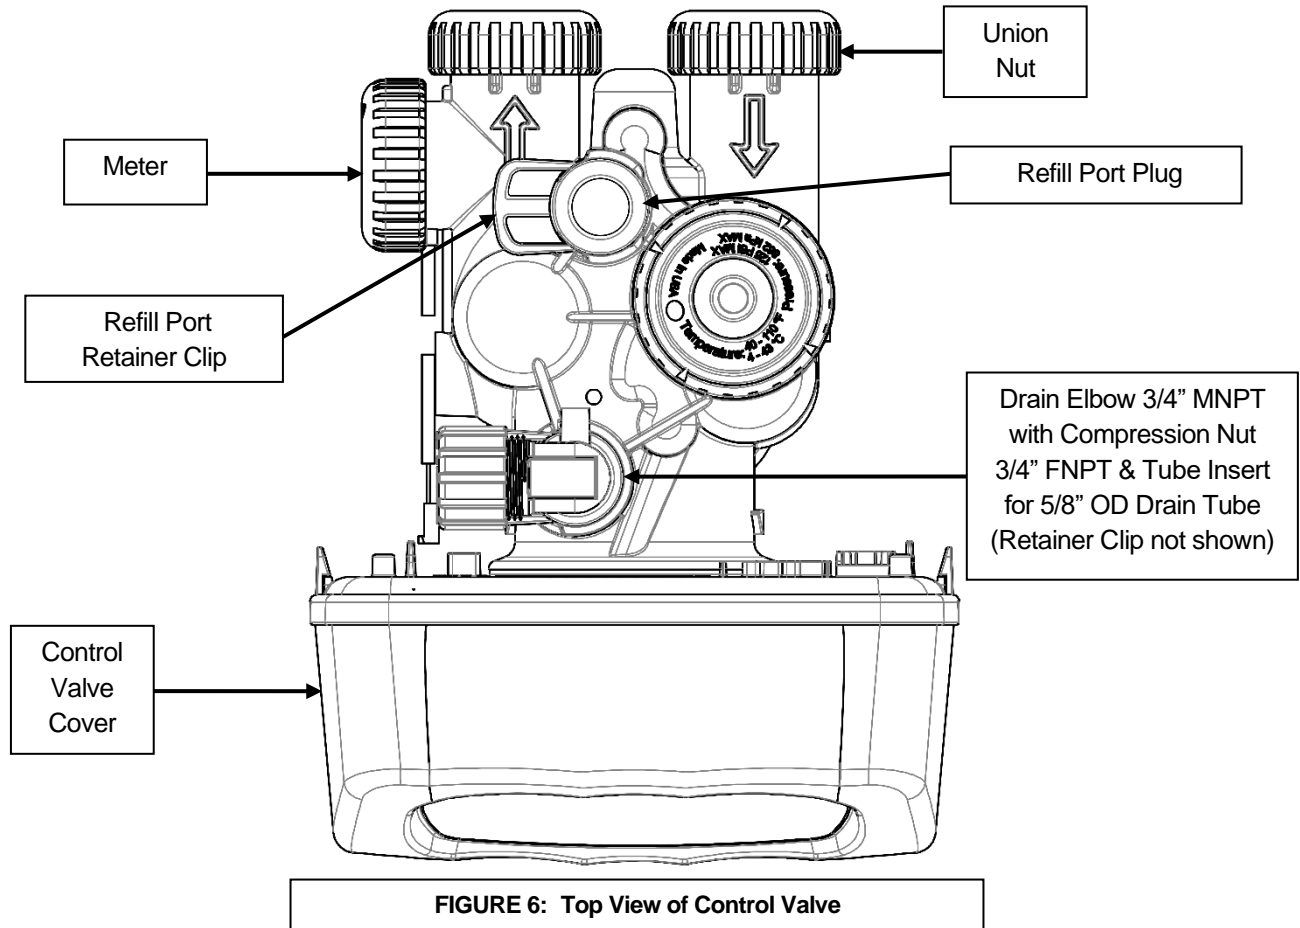

FIGURE 6: Top View of Control Valve
- STEP 8:** **Apply thread tape to DLFC Assembly**. Remove drain line flow control (DLFC) retainer clip (Figure 6, Page 7) and remove the DLFC assembly from the valve body, (Figure 6, Page 7). Apply thread tape to threads. Slide drain fitting compression nut onto provided drain tubing and place the tube insert inside the end of the tubing. Insert tubing end with insert into drain elbow and tighten the compression nut onto the thread taped elbow. Reinsert DLFC assembly into the valve body, making certain it is **FULLY** inserted before replacing the retaining clip.
- STEP 9:** **Install drain line**. Use the provided ½" I.D. polyethylene tubing (**DO NOT USE FLEXIBLE VINYL TUBING!**) to run drain line from control valve DLFC fitting (Figure 6, Page 7) to floor drain or sump pit capable of handling the backwash rate of the filter (refer to specifications and flow rate on page 16) or discard the compression fitting and use ¾" NPT fitting to connect a rigid pipe drain line (recommended). If backwash flow rate is greater than 7.5 gpm, use ¾" FNPT connector with rigid drain line. There must be an air gap at the end of the drain line to prevent siphoning of wastewater. Length of drain line should be 15' or less. **AVOID OVERHEAD DRAINS.**
- 12) Reattach Drain Line to Control Valve (Figure 6, Page 6).